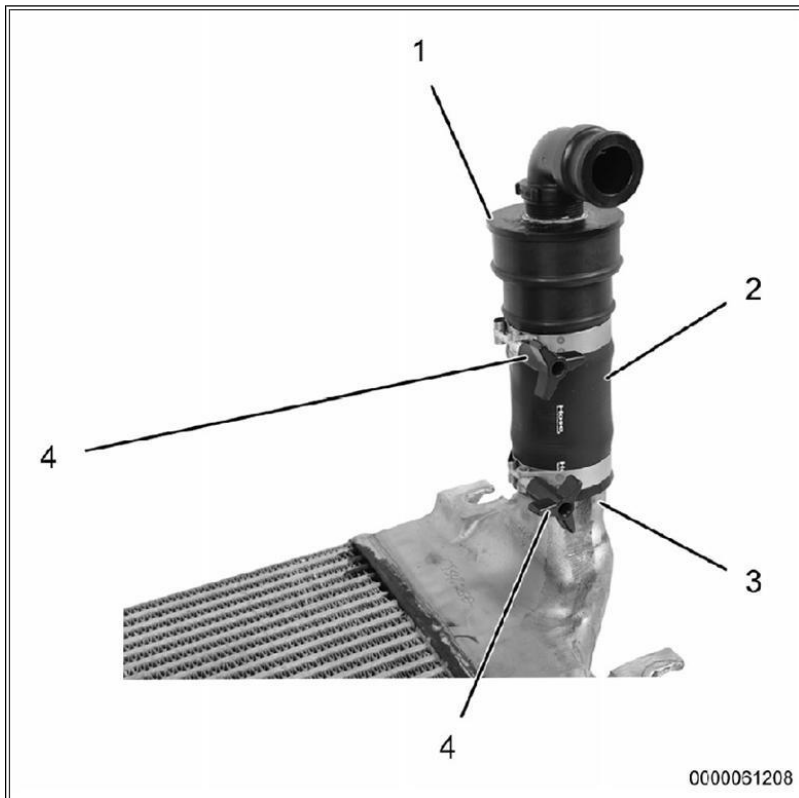

Figure 3: CAC Inlet Adapter
6. Install small hose (**Figure 3**, Item 2) on CAC inlet (**Figure 3**, Item 3) with T-clamp (**Figure 3**, Item 4).
7. Install CAC adapter (**Figure 3**, Item 1) in small hose (**Figure 3**, Item 2) with T-clamp (**Figure 3**, Item 4).